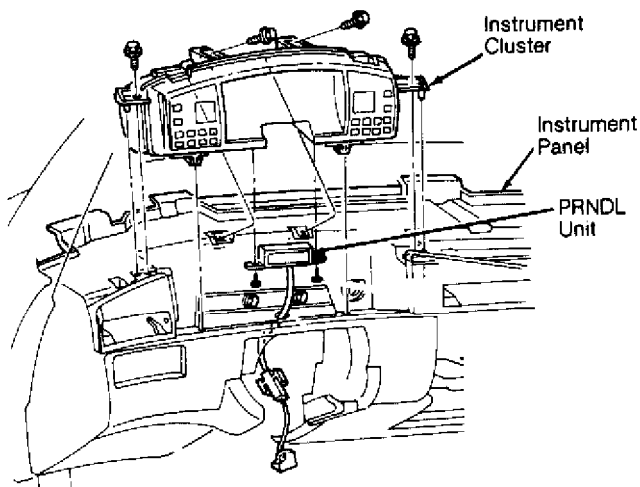

Fig. 14: Removing Instrument Cluster
2) Disconnect 2 harness connectors from top, rear of cluster. Remove 4 cluster retaining screws. See Fig. 14. On electronic cluster, lift cluster slightly to remove PRNDL unit screws from bottom of cluster. On both clusters, lift cluster straight up and out of instrument panel.